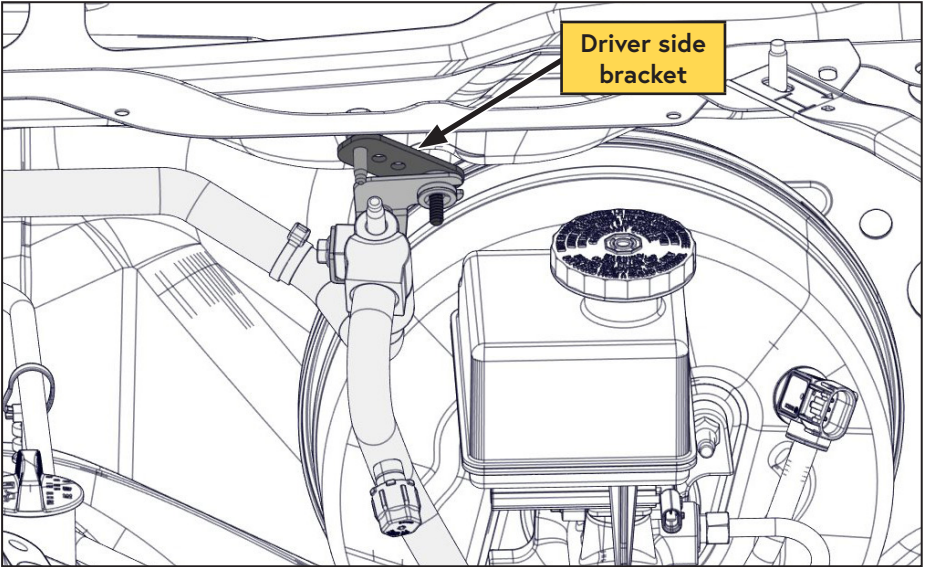

Figure 30 — Driver side
- ☐ Orient the driver side bracket to the 4 o'clock position (Figure 30).